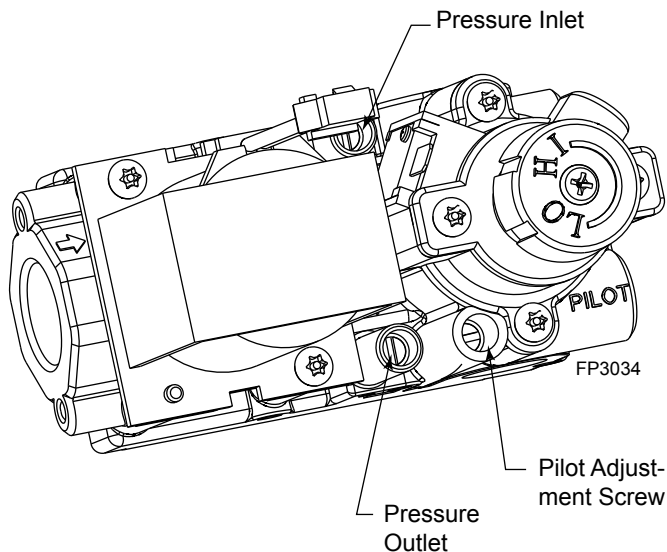

Figure 22. IPI Valve
4. To check gas pressures at valve, turn captured screw counter clockwise 2 or 3 turns and then place tubing to pressure gauge over test point. Turn unit to high. Figure 22. After taking pressure reading, be sure and turn captured screw clockwise firmly to reseal. Do not over torque. Check test points for gas leaks.